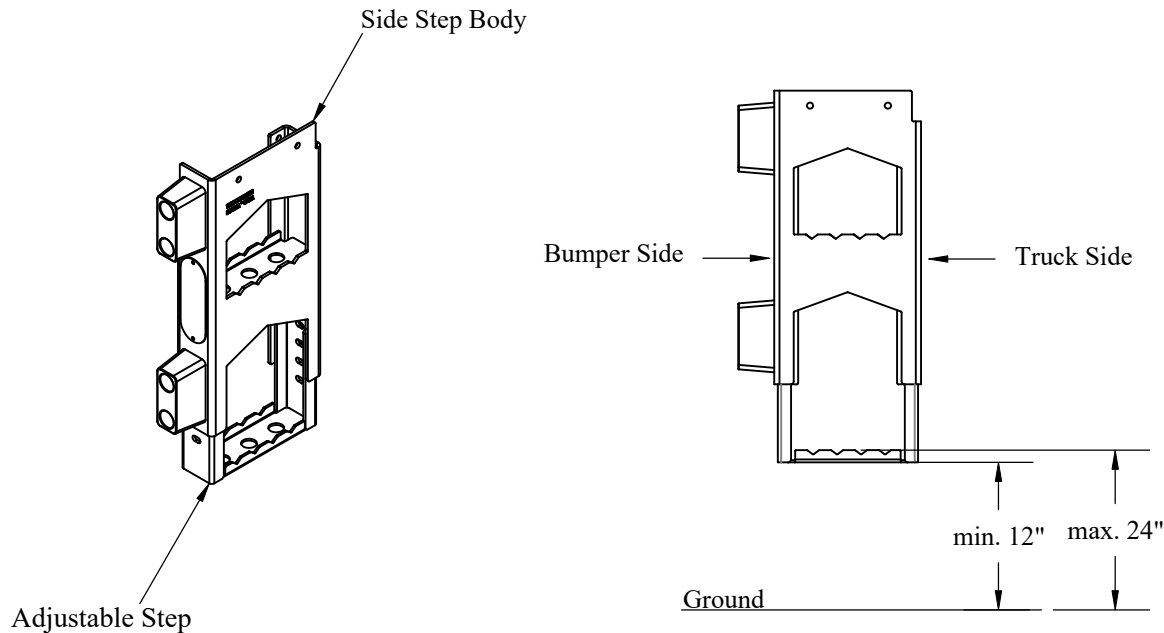

Figure 14: Side Steps Height Adjustment.
1. **Adjust** side step height to desired position (Figure 14).
2. **Bolt** the steps with the provided (2) 1/2"x2-1/2" bolts, 1/2" flat washers, and 1/2" crown lock nuts for the bumper side and (2) 1/2"x1-1/2" bolts, 1/2" flat washers, and 1/2" crown lock nuts for the truck side on the side step body.